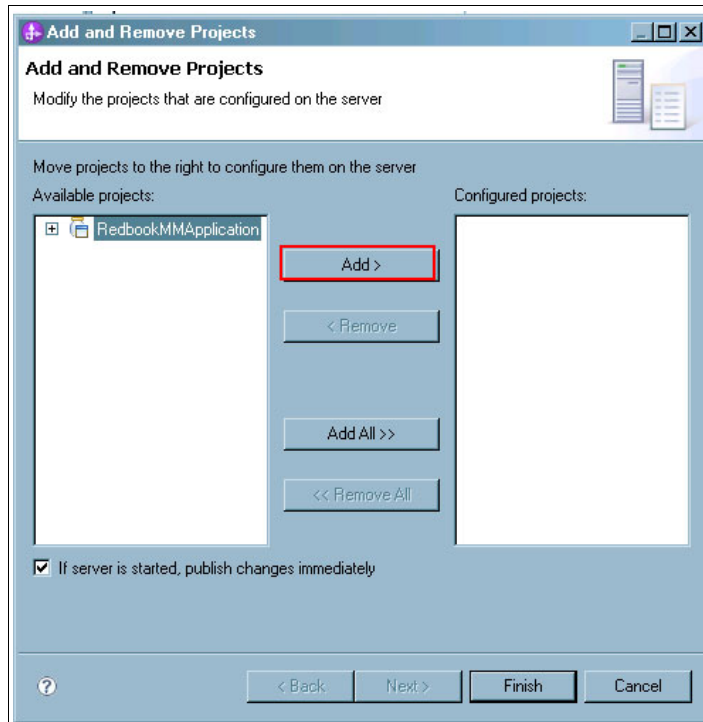

Figure 8-82 Add project to server
12. Click **Add**. See Figure 8-82 on page 282.